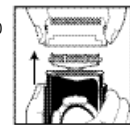

Fig. 1
- Remove head assembly by first pressing the two side buttons. ( fig.1 )